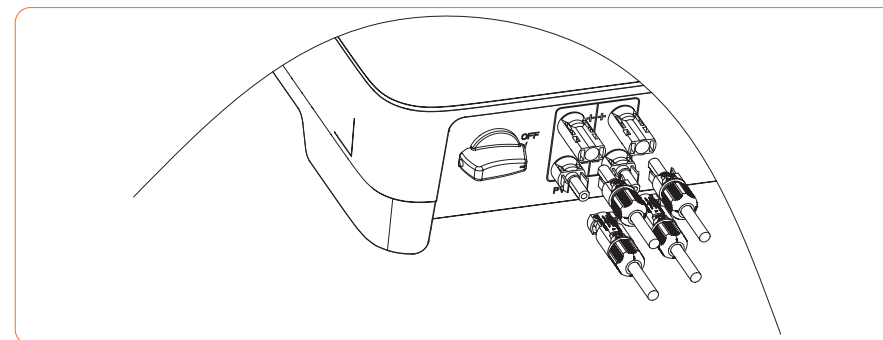

Figure 4-14
① Before assembling the DC connector, make sure that the cable polarity is correct.
② Use a multimeter to measure the voltage of the DC input string, verify the polarity of the DC input cable, and ensure that each string voltage is within 600V.
3. Insert the positive and negative connectors into the inverter DC input terminals respectively, and a "click" sound represents the assembly in place, as shown in Figure 4-14: